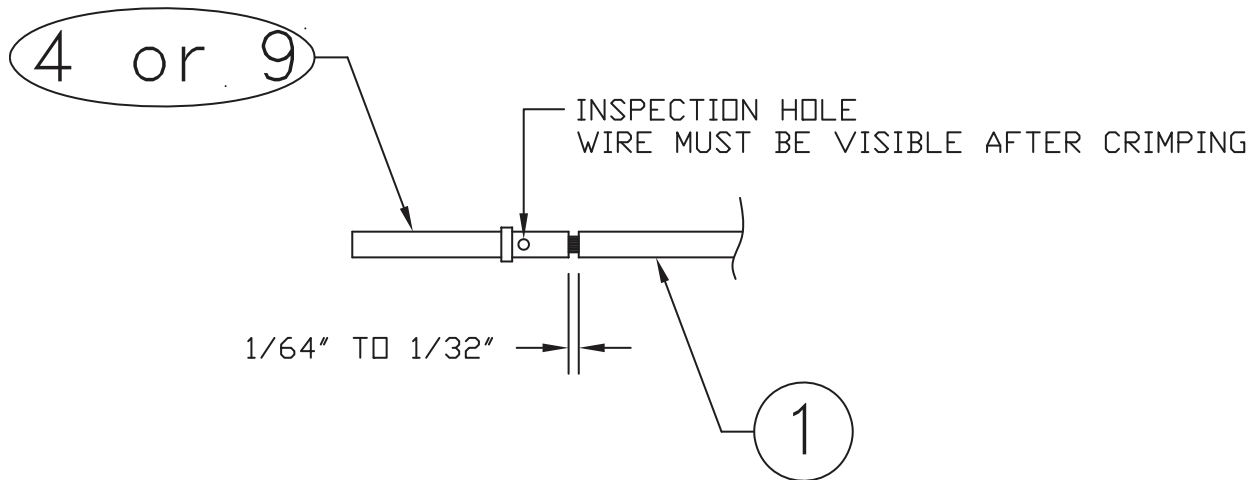

Figure 22-12 Insulation/Contact Clearance
Item numbers in Table 22-6, Table 22-7, and Table 22-8 correspond to Figure 22-12 and Figure 22-13.
For the following steps please refer to *Figure 22-12* & Figure 22-13.
1. Strip back approximately 0.17 inches of insulation from each wire of the four conductor wire harness (item 3, *Figure 22-12*) and crimp either a pin (item 4, *Figure 22-12*) or a socket (item 9, *Figure 22-12*) to each conductor. It is the responsibility of the installer to find the proper length of insulation to be removed. Wire must be visible in the inspection hole after crimping and the insulation must be 1/64 – 1/32 inches from the end of the contact as shown in *Figure 22-12*.